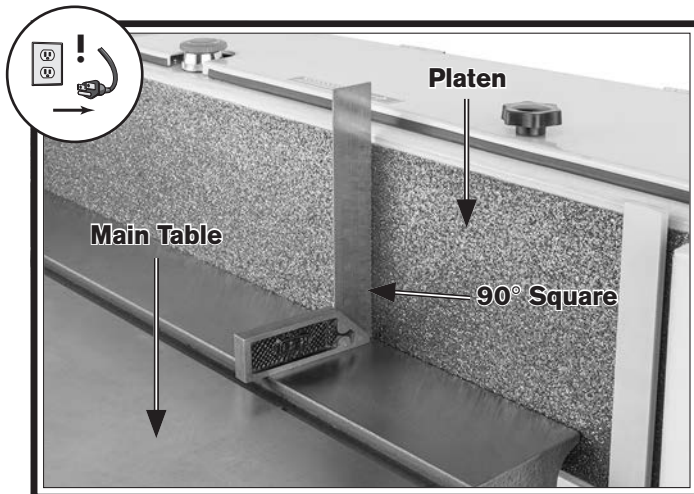

Figure 81. Square positioned to check platen angle.
3. Set one edge of 90° square on main table surface, as shown in **Figure 81**.
4. Adjust platen angle until perpendicular to face of platen (see **Figure 81**).